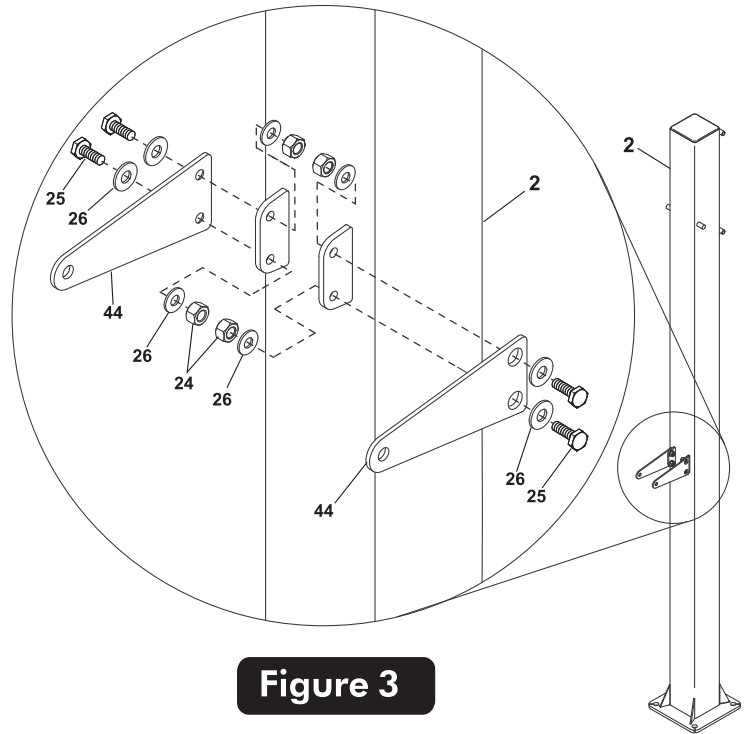

Figure 3
1. Attach Post Brackets (#44) to outside of brackets on back of Post Assembly (#2). Secure with two Hex Head Bolts (#25), four Flat Head Washers (#26) and two Locknuts (#24) in **each Bracket** (#44). See Figure 3.